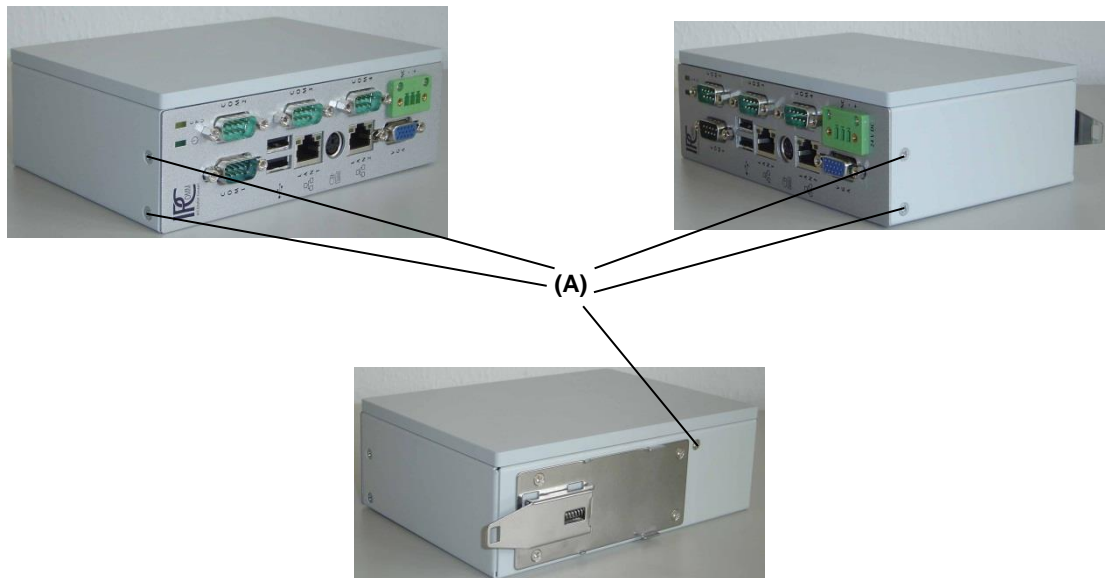

Figure 6: Loosening screws (A)
- Now, after “Figure 6: Loosening screws (A)” and “Figure 7: Demounting of the housing cover” change the CompactFlash.
- Insert in correct position the plug-in board (conductor plate unit) incl. cooling element together with the front board into the housing. Insert and tight the previously loosened screws (“Figure 6: Loosening screws (A)” and “Figure 9: Assembling”).